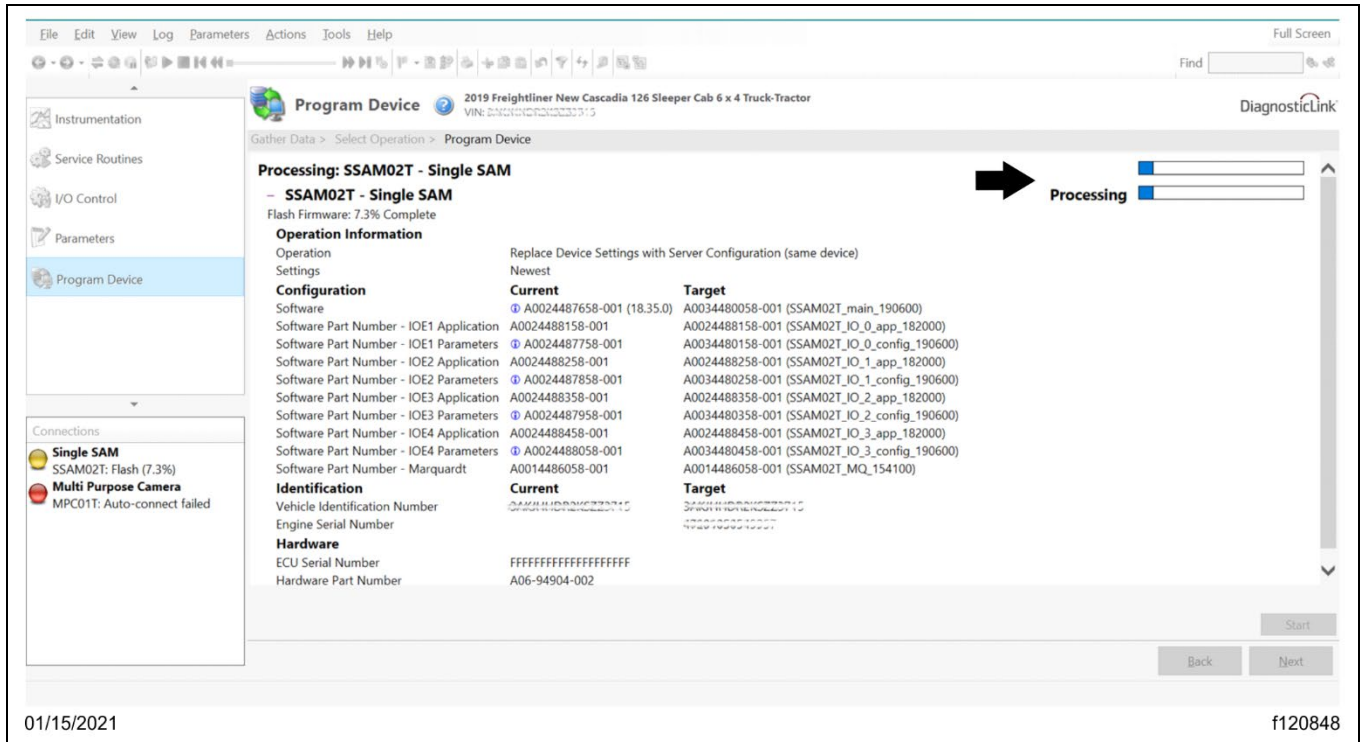

Fig. 20, Programming the Device (ECU)
7.11. The updated software and parameters will be installed on the sSAM, as shown in Fig. 20.